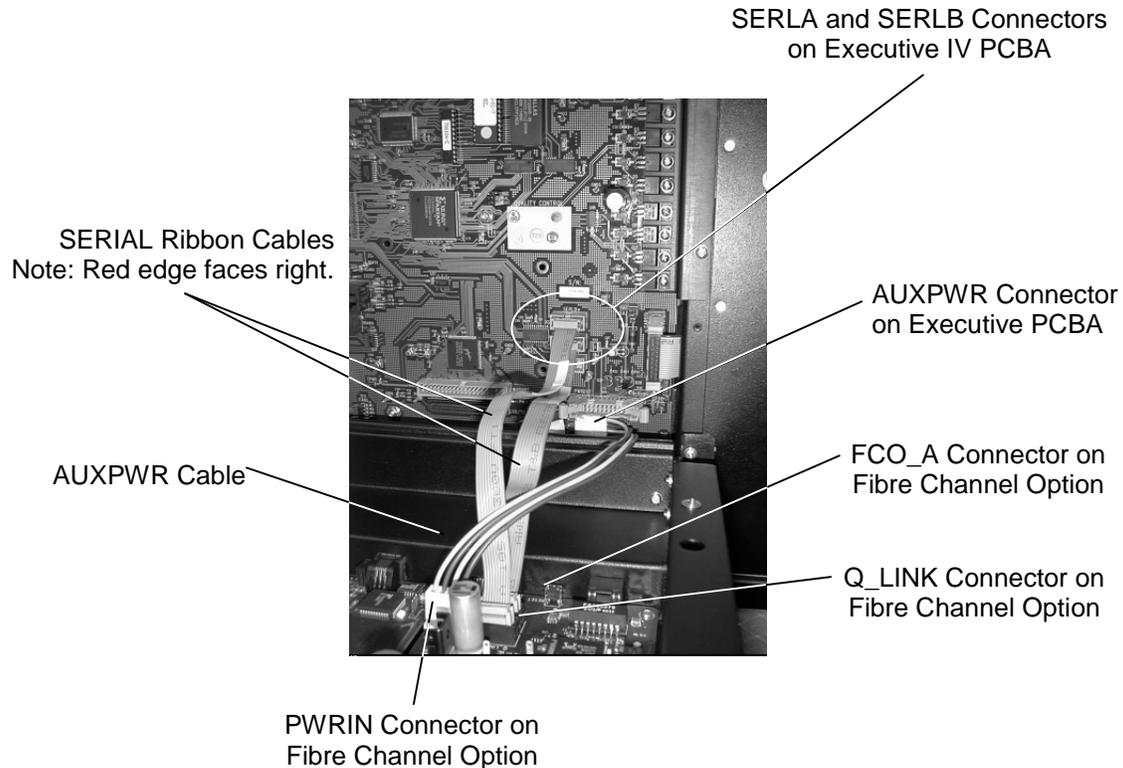

Figure 9-3 Detail of Connections in a Type C FCO
5. Carefully disconnect the AUXPWR cable from the PWRIN connector on the Fibre Channel Option. See Figure 9-3.
6. Carefully disconnect the SERIAL ribbon cable from the FCO_A connector on the Fibre Channel Option. For those FCOs that also have Q-Link, carefully disconnect the SERIAL ribbon cable from the Q_Link connector on the FCO. See Figure 9-3.